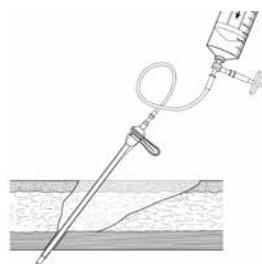

Figure 10
5. (Optional) Attach Air Insufflation Set, (sold separately, not available in all areas) as needed to cannula (Figure 10).